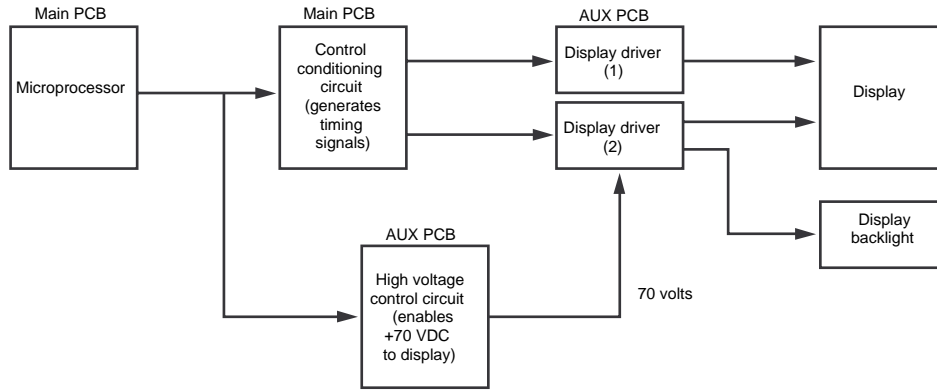

Figure 9-6: Display Control Block Diagram
9.6.3 Display Control Block Diagram (Figure 9-6)
The N-20/N-20P display is controlled by the display control circuitry (see Figure 9-6). A sensor is used to measure ambient light. During low light conditions, the display backlight, an electroluminescent device, is automatically switched on.